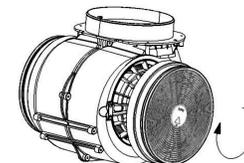

fig.7
3. Plug the activated carbon filter into the unit and turn it in clockwise direction. Repeat the same on the other side (see fig.7 below)